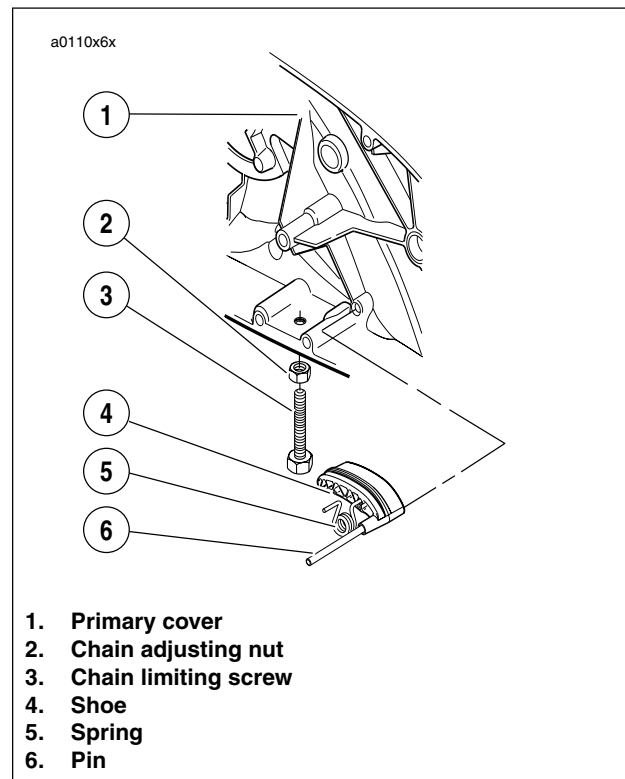

Figure 6-3. Primary Chain Adjuster
11. See Figure 6-3. Turn clutch adjusting screw clockwise to release ramp and coupling mechanism. As the limiting screw is turned, ramp assembly moves forward. Unscrew nut from end of limiting screw.
3. See Figure 6-3. Slide shoe outward and remove.
1. See Figure 6-3. If shoe is badly worn, replace it.